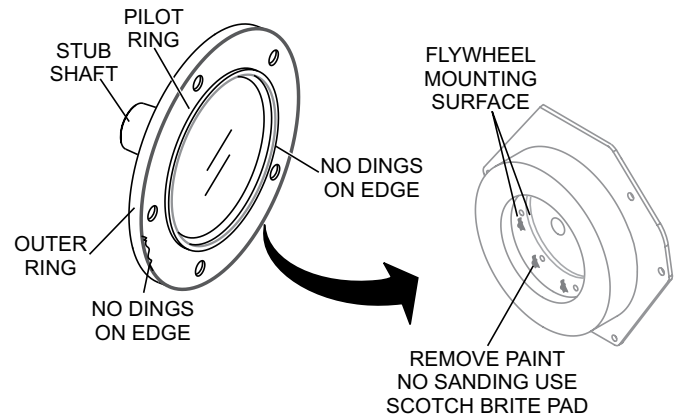

Figure 10. Flywheel Mounting Surface
1. Remove paint from flywheel mounting surface using Scotch-brite pad (no sanding). See Figure 10.
2. Ensure that there are no dings on the edges of the stub shaft pilot ring and the outer ring (See Figure 10). Use a flat abrasive stone to remove burrs from around any dings.